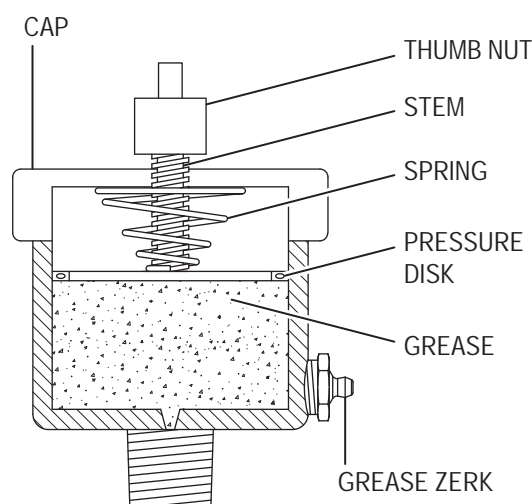

Figure 1 – Automatic Pressure Lubricator Components
- B. Check automatic pressure lubricator at pump. If the red indicator is fully raised, the automatic pressure lubricator contains lubricant. If not, lubricant must be replaced by the following procedure (See Figure 1):